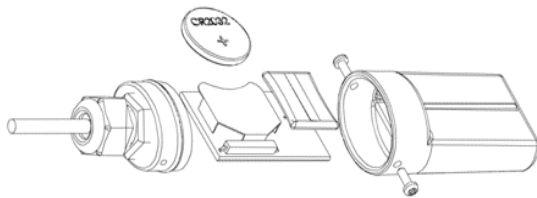

Figure 4: Battery Replacement
1. See Figure 4. Remove the two screws that secure the end cap to the case and remove the cap. The circuit board is attached to the cap.